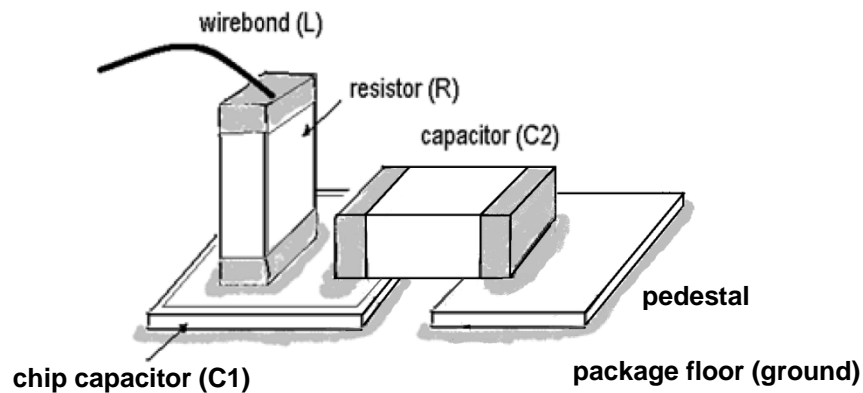

Figure 3. Suggested implementation of the LFGR
The suggested implementation of the LFGR network is shown in *Figure 3*. This shows a wirebond (L) connected to the top of a discrete resistor (R) standing on end on a chip capacitor (C1). A discrete capacitor (C2) extends from the top of the chip capacitor to a pedestal on the grounded package floor.